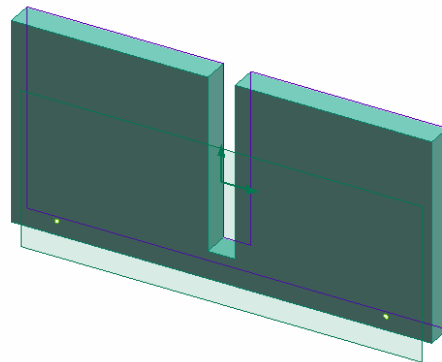

Figure 20. Completed base mounting holes.
38. Figure 20 shows the completed holes.